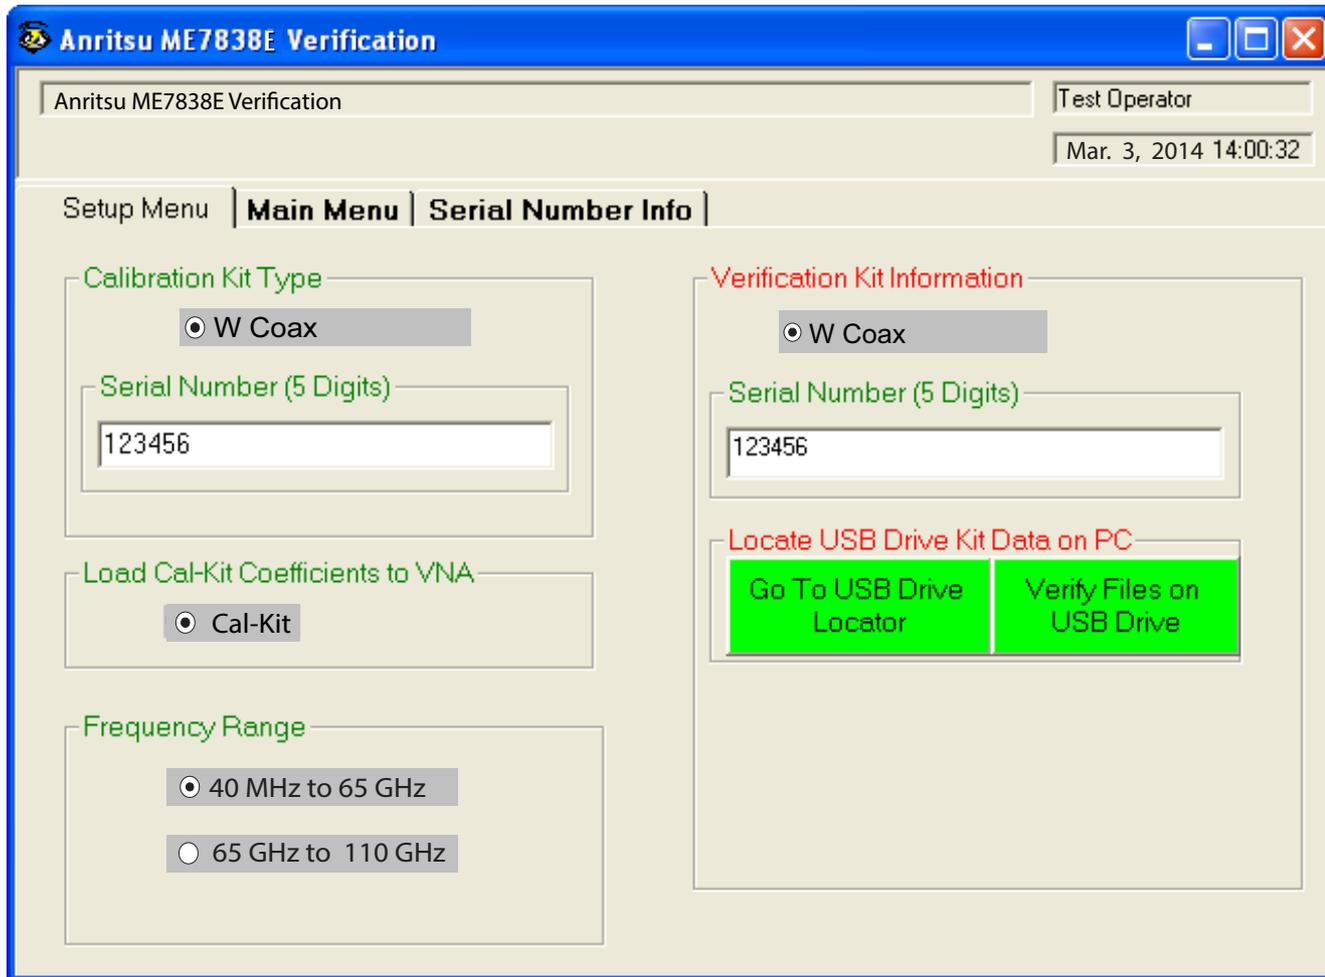

Figure 3-19. ME7838E Application Interface – Setup Menu Tab
9. In Figure 3-19, find the Locate the USB Drive Kit Data on PC area and click the Go To USB Drive Locator button.